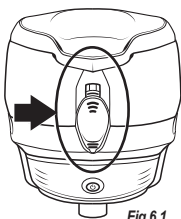

Fig 6.1
1. Locate the Button Lock and Shell Release Button on the back of the loader (Fig 6.1).